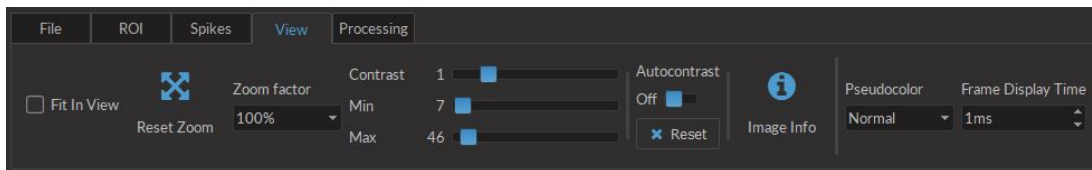

Figure 4.15: View Tab
4. The **View tab** (Fig. 4.15) is used to manipulate the appearance of an image without changing base data.